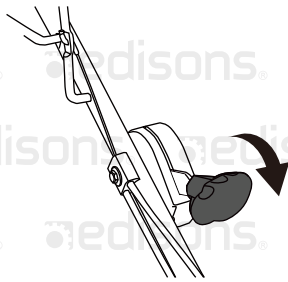

Fig. 13
1. Move the throttle lever **(4)** downward for starting (Fig. 13).